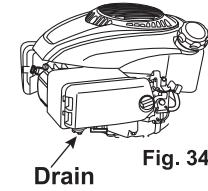

Fig. 34
2. Extract the fuel from the fuel tank and the carburetor. (See Fig. 34)